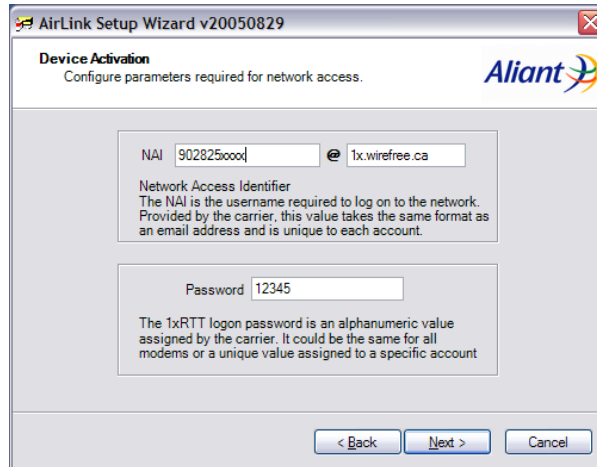

Figure 9 – Confirmation Screen
7. Figure 9 – Confirmation Screen shows input settings to this point. The password is the default network password and is different for each carrier Wizard. *Do not change this password.* Click next to continue.